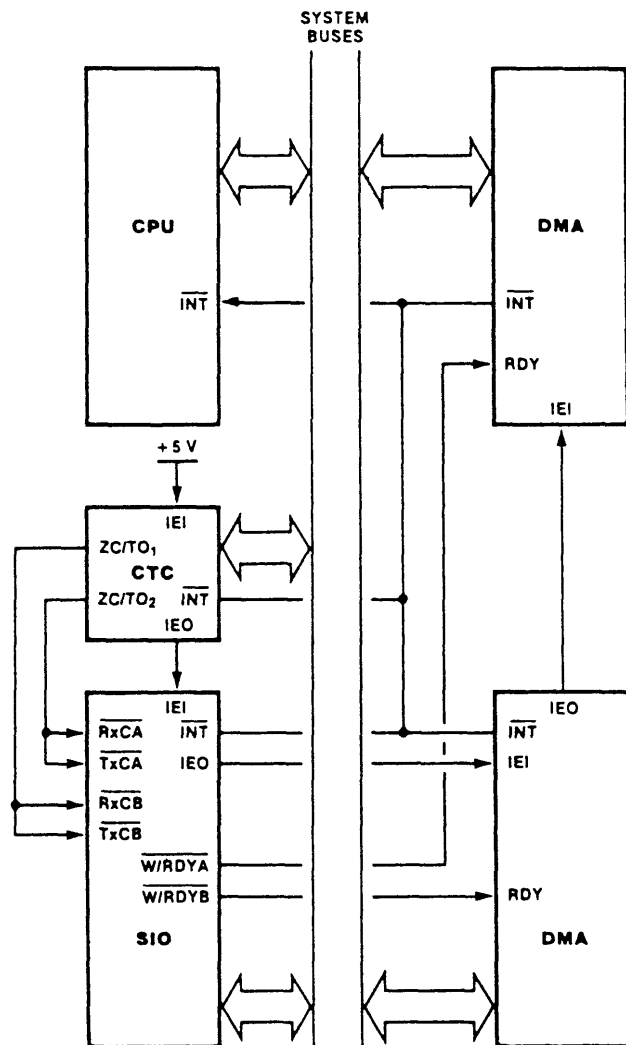

Figure 11. Typical Z80 Environment
In a Z80 CPU environment (Figure 11), SIO interrupt vectoring is "automatic": the SIO passes its internally-modifiable 8-bit interrupt vector to the CPU, which adds an additional 8 bits from its interrupt-vector (I) register to form the memory address of the interrupt routine table. This table contains the address of the beginning of the interrupt routine itself. The process entails an indirect transfer of CPU control to the interrupt routine, so that the next instruction executed after an interrupt acknowledge by the CPU is the first instruction of the interrupt routine itself.